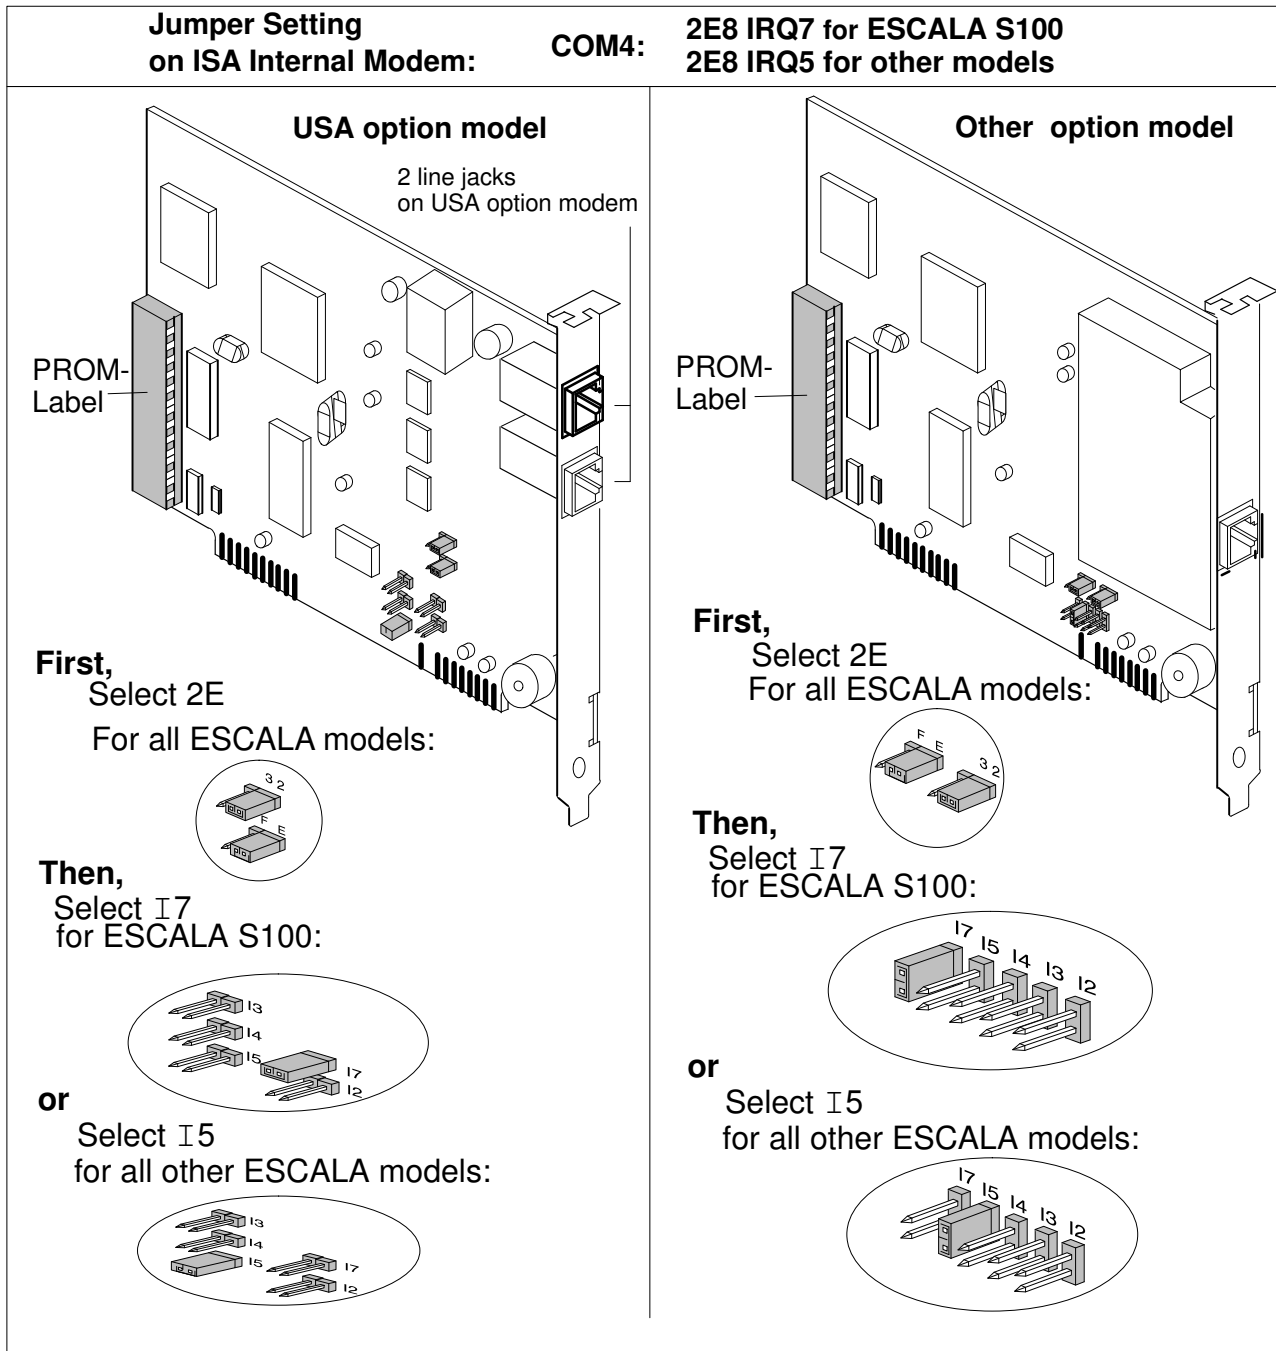

Figure 1. Jumper Setting on the ISA Internal Modem.
The ISA Internal Modem must be set COM4/IRQ5 (or COM4/IRQ7 for ESCALA S100). This is done by setting jumpers, i.e. the communication port selected is COM4 and the interrupt level is 5 (or 7). This is illustrated in Figure 1.
- Set the jumpers as shown in Figure 1 and plug the modem into the machine